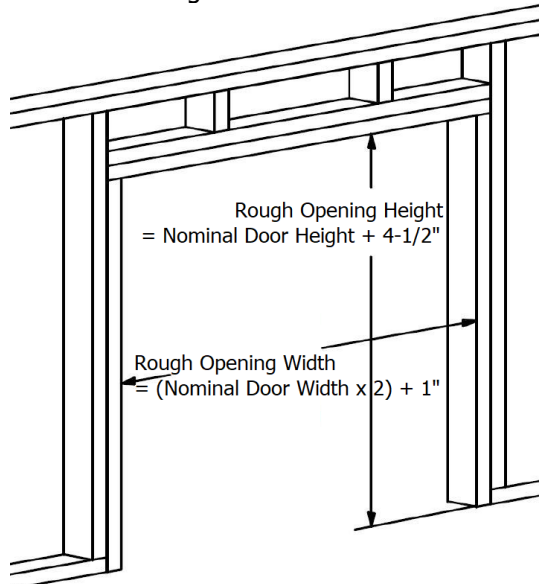

Figure 1
- Measure the rough opening using Table 1 and 2 or Figure 1